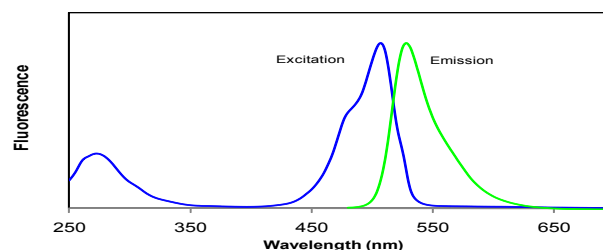

Figure 1. Excitation (left) and emission (right) spectra of GelGreen™ bound to dsDNA in TBE
GelGreen™ is a sensitive, stable and environmentally safe green fluorescent nucleic acid dye specifically designed for gel staining. GelGreen is far more sensitive than SYBR® Safe (Figure 3). Unlike SYBR dyes, which are known to be unstable, GelGreen™ is very stable, both hydrolytically and thermally. Moreover, unlike the highly mutagenic EtBr and the reportedly mutation-enhancing SYBR Green I (Ohta et al. Mutation Research 492, 91(2001)), GelGreen™ is shown to be nonmutagenic and noncytotoxic. A key reason for the observed low toxicity of GelGreen™ may be due to the dye's inability to cross cell membrane (Figure 2). GelGreen™ has sufficient UV absorption between 250 nm and 300 nm and a strong absorption peak centered around 500 nm (Figure 1). Thus, GelGreen™ is compatible with either a 254 nm UV transilluminator or a gel reader equipped with visible light excitation (such as a 488 nm laser-based gel scanner or a Dark Reader).
- 1.5 View the stained gel with a 254 nm transilluminator, a Dark Reader or a similar transilluminator, or a laser-based gel scanner, and photograph the gel using any suitable imaging equipment. A long path green filter such as a SYBR filter or GelStar filter should be used for the photographing. (See figure 1 for GelGreen™ excitation and emission spectra).
(See figure 1 for GelGreen™ excitation and emission spectra). (If you consistently see band smearing and/or poor band separation, run a post gel staining by following the protocol provided below to confirm if the problem is caused by the dye or other factors unrelated to the dye. If post gel staining is normal and the problem is not caused by the dye, try any of the followings: lower the amount of nucleic acid loaded; lower running voltage; lower the amount of agarose in the gel; run a longer gel; increase the thickness of the gel; increase gel solidification time to ensure sharp well formation; improve your sample loading technique or select post gel staining as your protocol. You may also try our GelRed™, which gives less DNA migration problem).